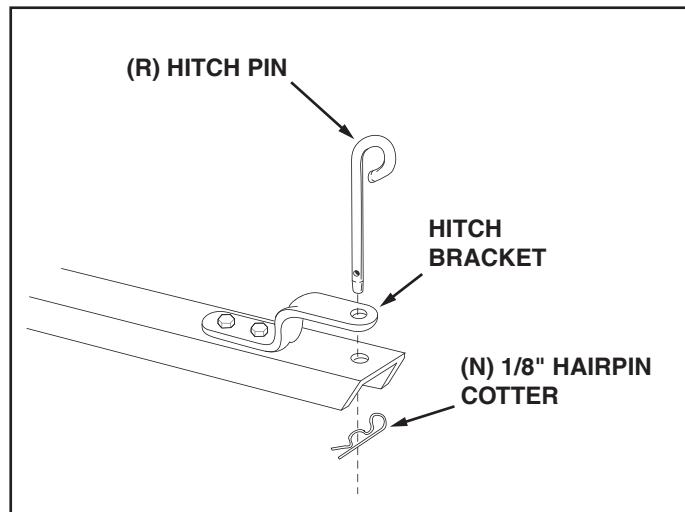

FIGURE 12
19. Assemble the hitch pin (R) through the tongue and hitch bracket and secure it with the $1/8"$ hairpin cotter (N). See figure 12.